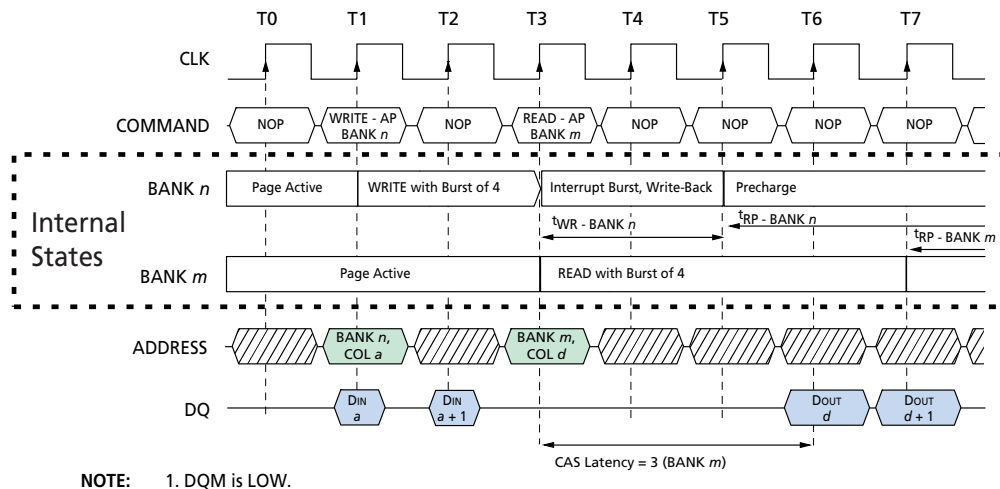

Figure 26
- Interrupted by a READ (with or without auto precharge): A READ to bank *m* will interrupt a WRITE on bank *n* when registered, with the data-out appearing CAS latency later. The PRECHARGE to bank *n* will begin after t_{WR} is met, where t_{WR} begins when the READ to bank *m* is registered. The last valid WRITE to bank *n* will be data-in registered one clock prior to the READ to bank *m* (Figure 26).